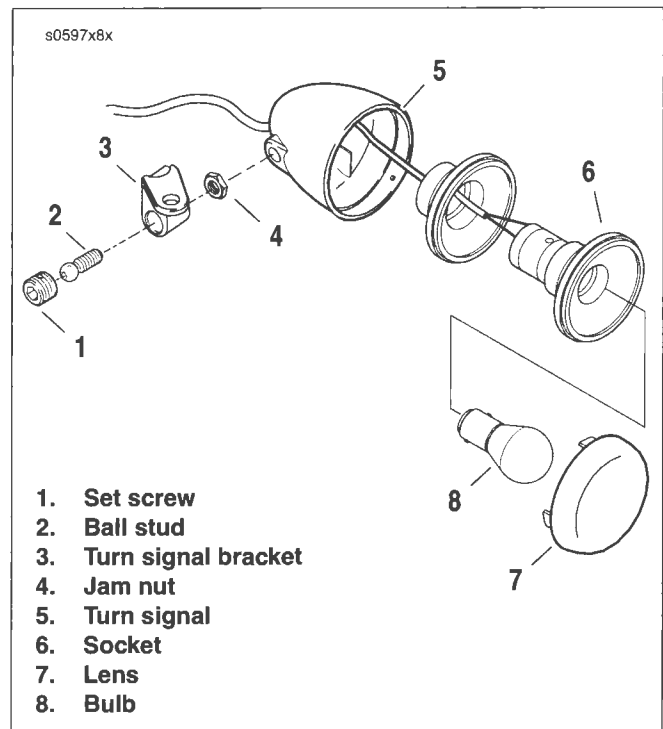

Figure 8-62. Front Turn Signals: FLSTS, FXSTC
- a. See Figure 8-62. Remove set screw (1) from turn signal bracket (3).
- b. Loosen jam nut (4).
- c. Use a ball Allen wrench to remove ball stud (2) from turn signal (5) and turn signal bracket.
- f. Position turn signal to point lens (7) straight ahead. Tighten each set screw to 50-70 **in-lbs** (5.7-7.9 Nm).